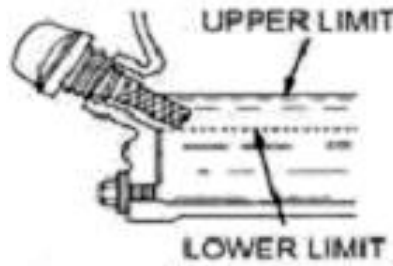

Figure 4. Engine Oil Dipstick
4. If the oil level is low (Figure 4), fill to the edge of the oil filter hole with the recommended oil type (Table 3). Maximum oil capacity is 300cc.